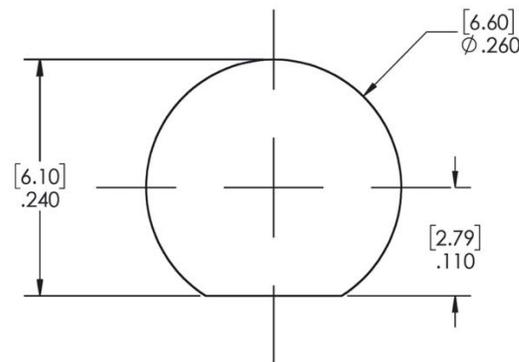

Figure 6 - Recommended mounting hole for 1/4-36UNS-2A threaded antenna with flat
10. Determine best location for external antenna position and create an opening to mount the antenna and bulkhead (See Figure 6 for measurements).